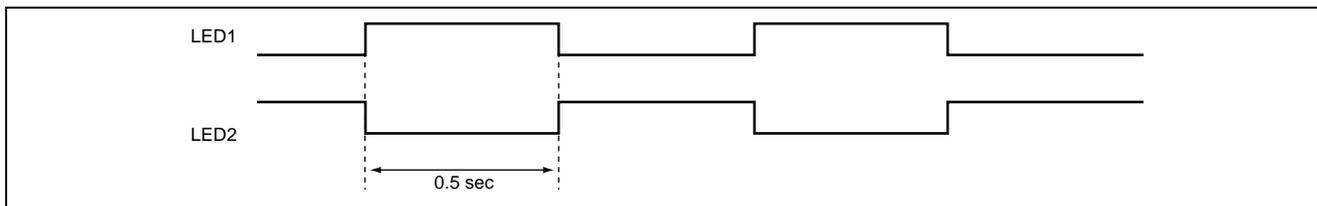

Figure 1.1 LED Flickering Operation
1. The two LEDs connected to the I/O ports are alternately turned on and off, as shown in figure 1.1.